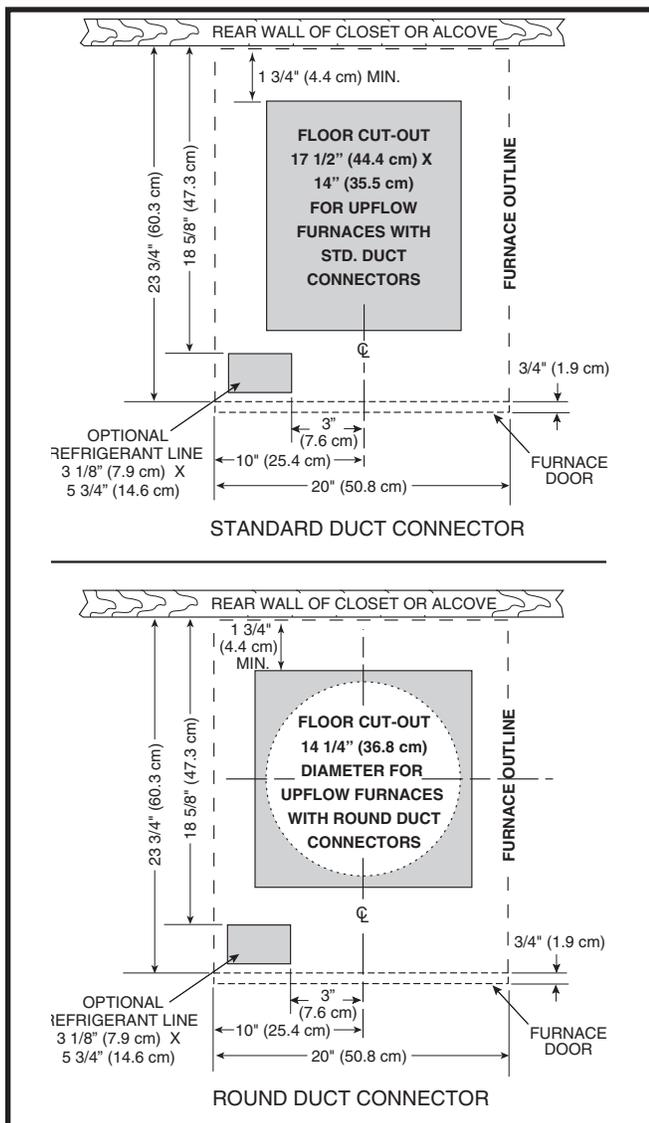
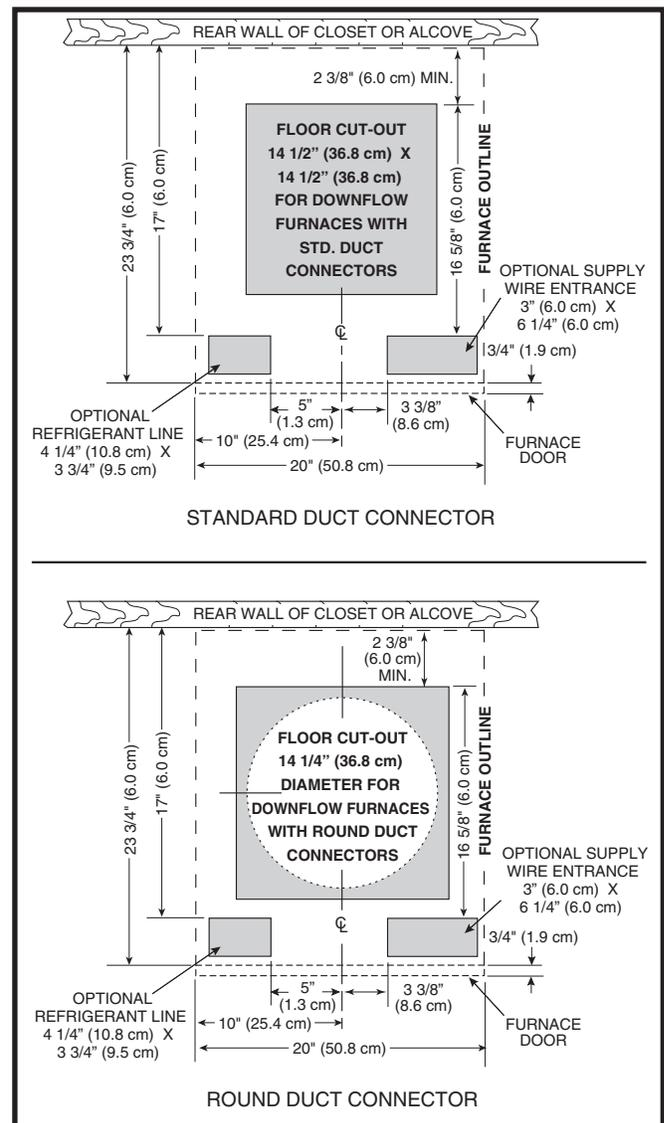

Figure 2. Cut-Out Dimensions for Upflow Appliances
Figure 3. Cut-Out Dimensions for Downflow Appliances
Floor cut-outs must be carefully located to avoid misalignment of the Appliance and air duct. Standard and round cutouts for upflow Appliances are shown in Figure 2 \(page 6\). The cutouts for downflow Appliances are shown in Figure 3 \(page 6\).
2. Using the centerline as a starting point, draw the rest of the duct cut-out to the dimensions shown in Figure 2 or Figure 3.
- a. Mark floor openings as shown in Figure 2 \(page 6\). Provide minimum clearances at rear and left side walls of closet for installation of Appliance and wiring.